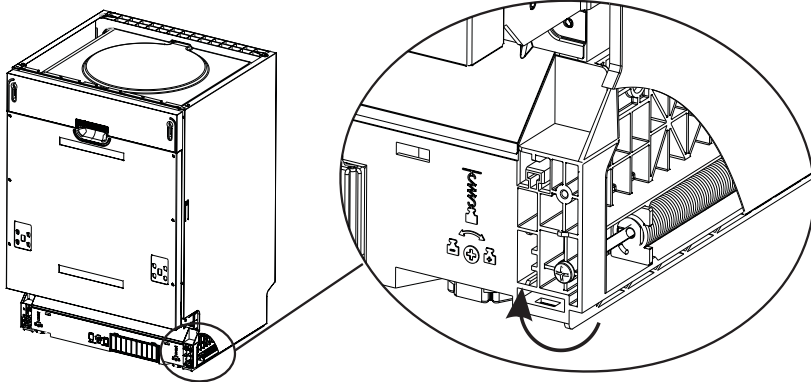

Figure 5 - Tension adjustment of the door spring
2. Adjust **the tension of the door springs** (Figure 5) by using an phillips screwdriver turning in a clockwise motion to tighten the left and right door springs. Failure to do this could cause damage to your dishwasher.
- The door springs are set at the factory to the proper tension for the outer door. If aesthetic wooden panel are installed, you will have to adjust the door spring tension. Rotate the adjusting screw to drive the adjustor to strain or relax the steel cable (see figure 5).